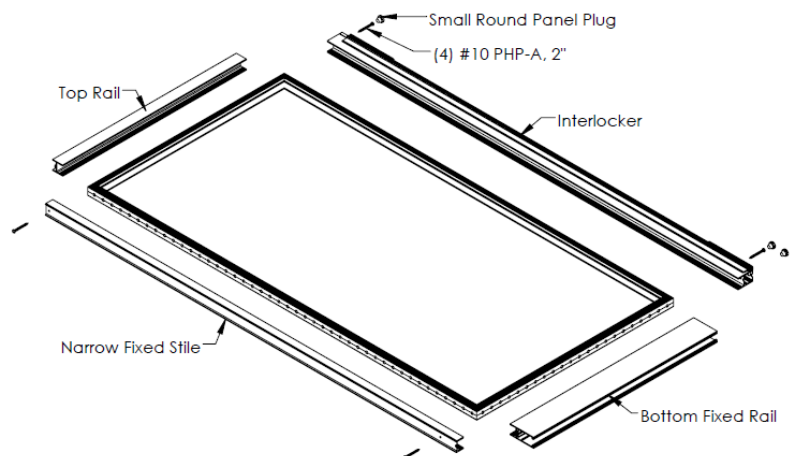

Figure 4:
3. Position the interlocker stile weather strip face down (on right side for OX, on left side for XO) and drive it onto the glass (Figure 4).
4. Secure the stiles to the rails with (4) #10 x 2" pan head screws.